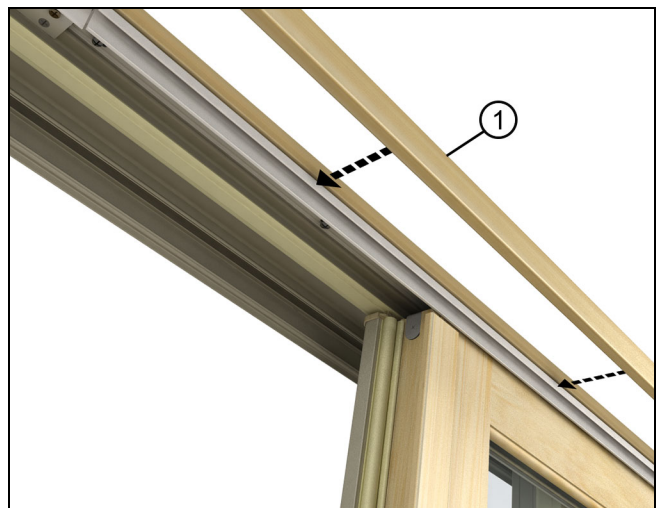

Figure 17
5. Once both operator panels have been installed (recheck the head jamb to verify it is not bowed) Adjust rollers up by turning clockwise 1 or 2 clicks or just enough to allow panel to roll freely. (For optimal performance operator panel should not be raised more than needed for smooth operation.) Attach the wood panel guide trim by snapping into the aluminum panel guide. See Figure 17.